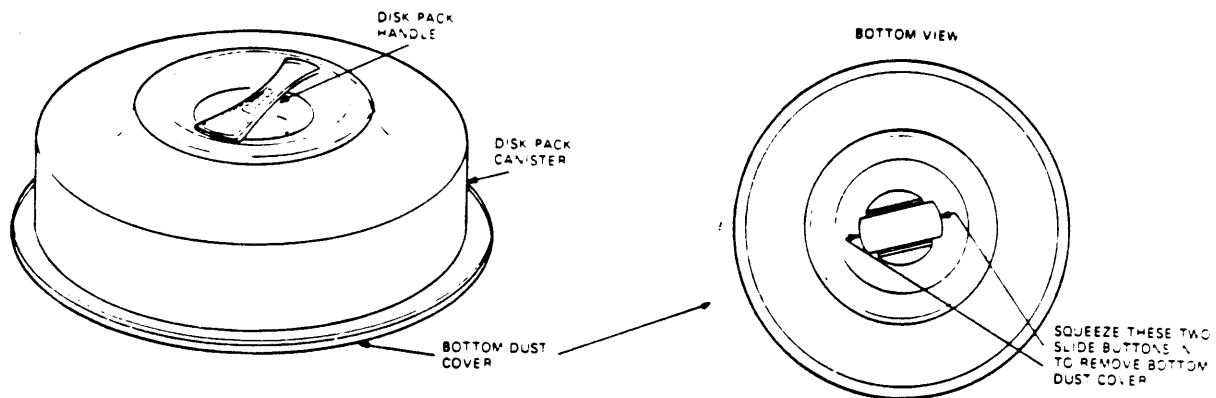

Figure 2-36 Remove the Bottom Dust Cover from the Canister.
- o Remove the bottom dust cover from the disk pack canister by squeezing together the two slide buttons on its underside (see Figure 2-36). Avoid placing fingerprints on the exposed disks inside the canister.